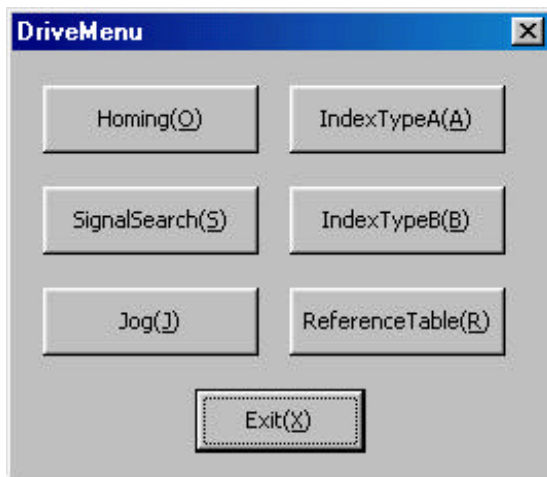

Figure 7.20 “DriveMenu” dialog box
Click *“Drive (D)”* under *“MainMenu”* to display the *“DriveMenu”* dialog box (see Figure 7.20).